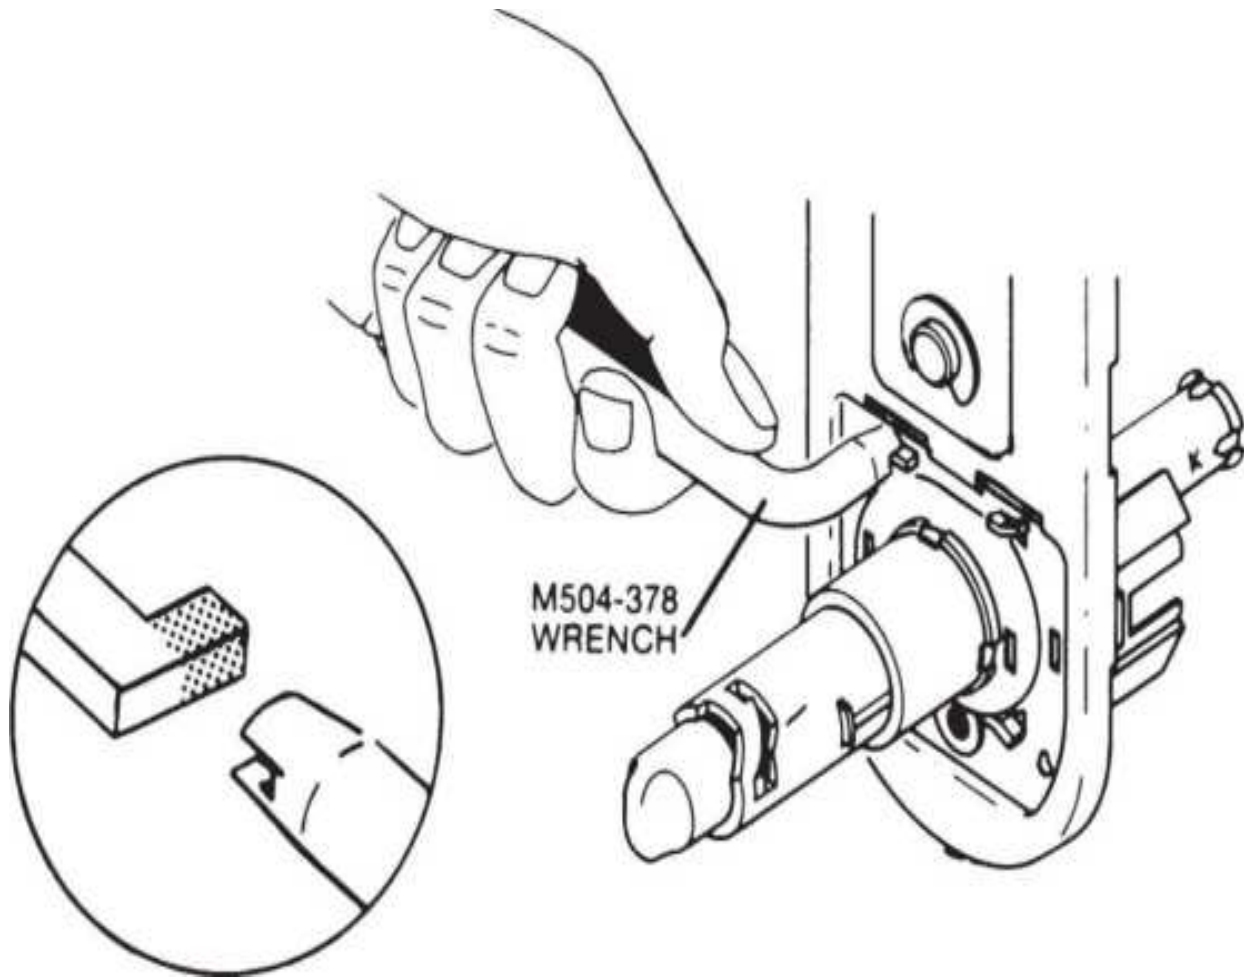

**Figure 13.100** Right-hand conversion, Step 8.
8. Bend the tabs to secure the mounting plate (Fig. 13.100 ).